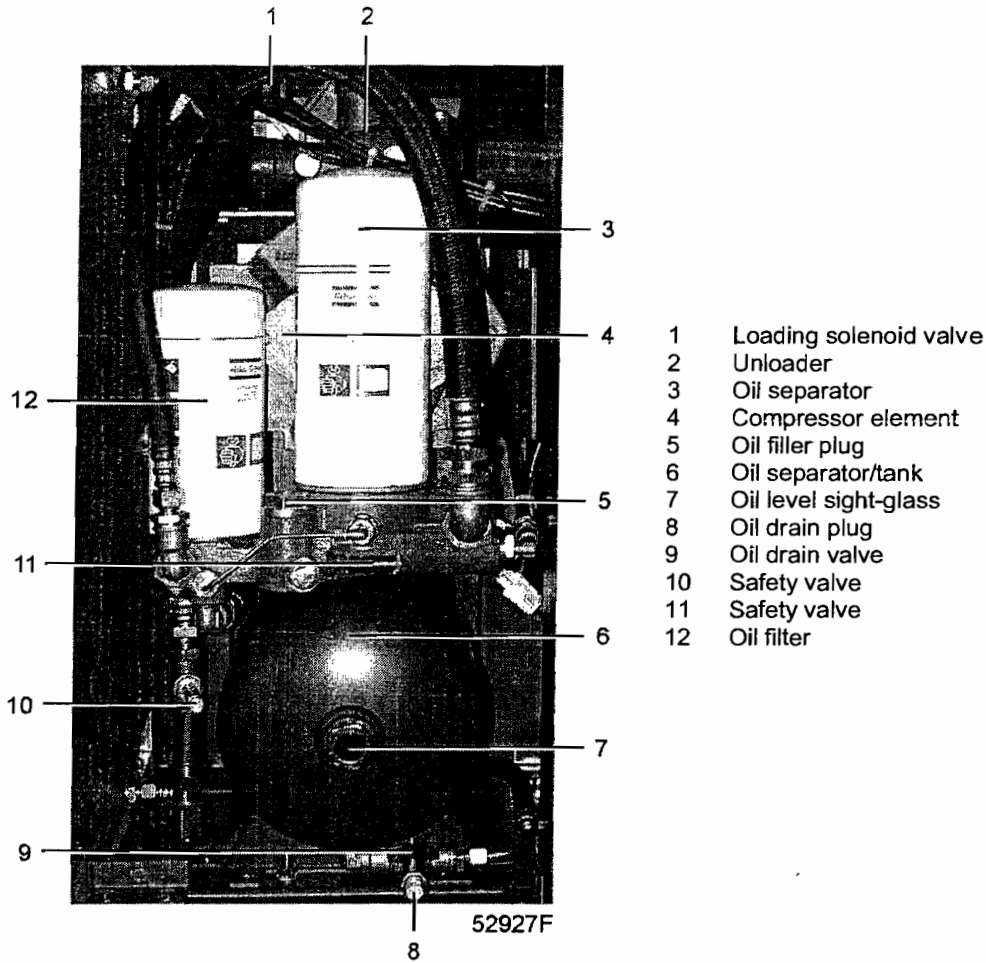

Fig. 5.3 Oil system GX15 (typical example)
Before removing the valve: stop the compressor, close the air outlet valve, switch off the voltage, open drain valve (12-Figs. 1.2 up to 1.4) of the air receiver and unscrew filler plug (5-Fig. 5.3) **one turn** to permit any pressure in the system to escape.
### 5.5 Oil, filter and separator change (Fig. 5.3)
1. Stop the compressor, close the air outlet valve, switch off the voltage and depressurize by unscrewing filler plug (5-Fig. 5.3) **one turn** to permit any pressure in the system to escape. Depressurize the air receiver by opening drain valve (12-Figs. 1.2 up to 1.4).
7. Tighten filler plug (5-Fig. 5.3) and close drain valve (12-Figs. 1.2 up to 1.4).
Close air outlet valve (2-Fig. 2.7) and depressurize by opening the oil filler plug (5-Fig. 5.3) **one turn**, by opening condensate drain valve (9-Figs. 1.5 and 1.6) and by opening drain valve (12-Figs. 1.2 up to 1.4) of the air receiver.